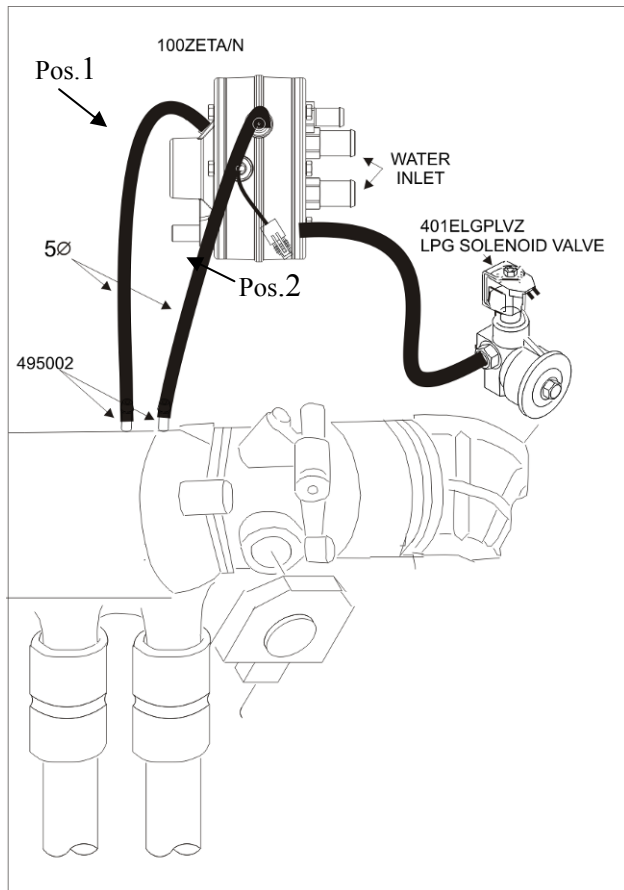

Fig. 2.4.1 -3
For correct functioning of the **ZETA** regulator, as prescribed in previous chapter, compensation must be carried out of the pressure connecting the regulator (figure 2.4.1-3 pos. 1) with the inlet manifold. Such connection happens using a  $\varnothing$  5 mm rubber tube, one tube end is connected to the regulator fitting, the other end to a provided fitting, to be installed prior perforating and threading on the inlet manifold. The position of the hole must be exactly downstream of the butterfly valve and upstream of the ducts of the inlet manifold directed to the individual cylinders; the tube length must not exceed 700 mm, figure 2.4.1-3.